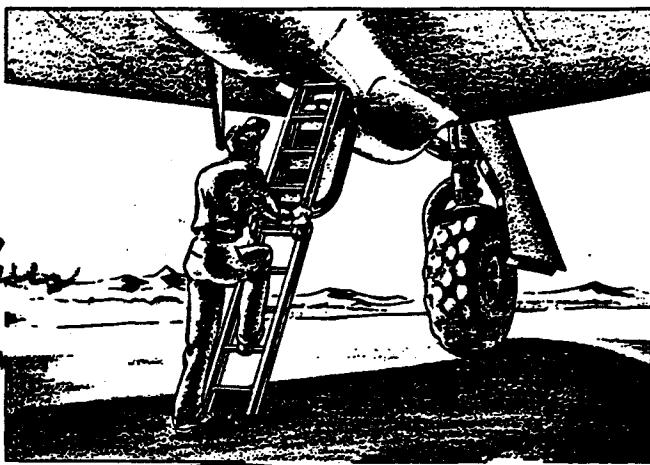

Figure 1. Entrance
(1) See that the engine sections have been inspected.
(2) Check for servicing-fuel tanks, oil tanks, hydraulic reservoirs, landing gear bungees, and nose gear steering and brake accumulator.
(3) See that all dust covers have been removed.
(4) See that the ground crew has an extinguisher with a special nozzle connected to No. 1 engine blower section connection. (See paragraph 50, Section I.)
d. ENTRANCE TO THE AIRPLANE. (See figure 1.) - The main entrance hatch is located in the bottom center of the crew nacelle. Turn the handle at the center of the door to the right and lower the door, then place the ladder against the door.